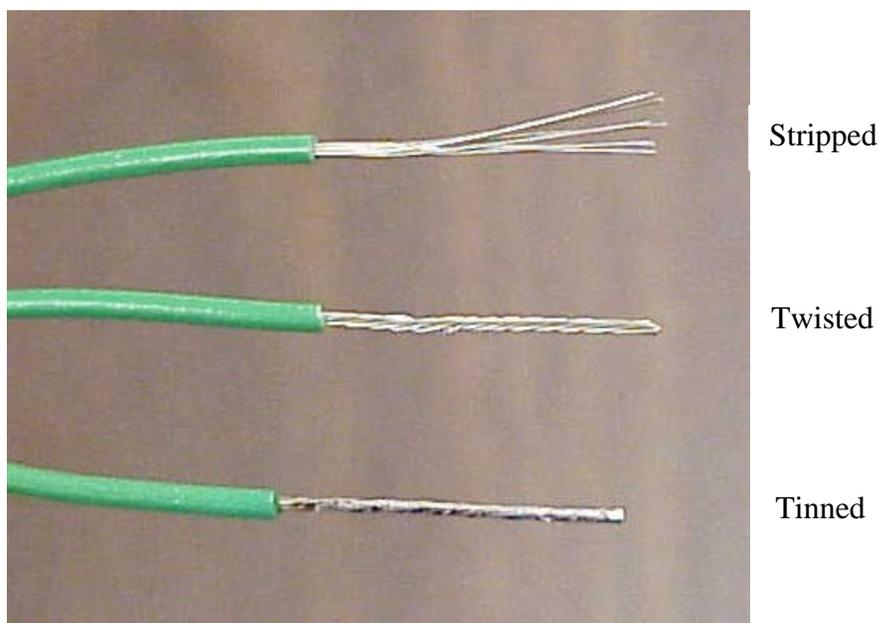

Figure 6. Stranded wire preparation.
2. Strip, twist, and lightly “tin” the wire prior to soldering it in place this prevents fraying of the conductors. Apply solder sparingly since too much solder may increase the wire diameter so that it becomes too large or too stiff. A wire prepared in this way may now be hooked around a terminal or soldered into place on a PCB without fraying. See Figure 6.